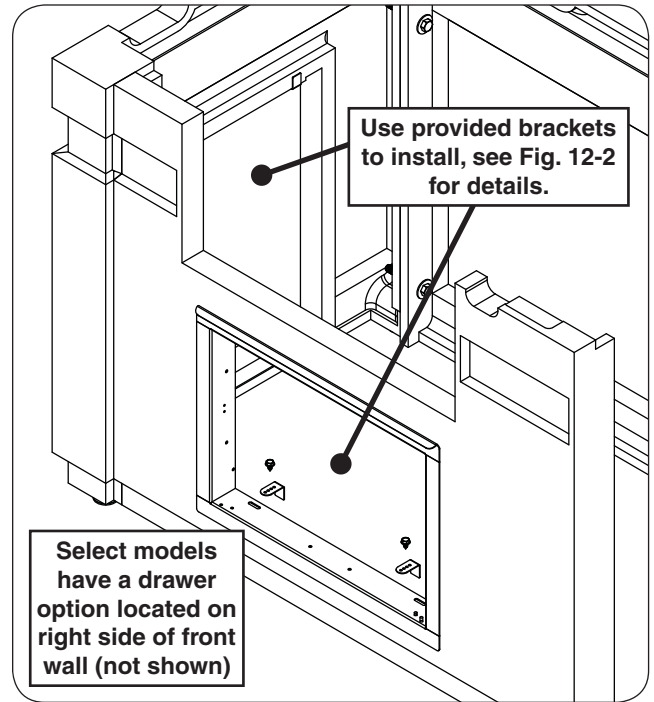
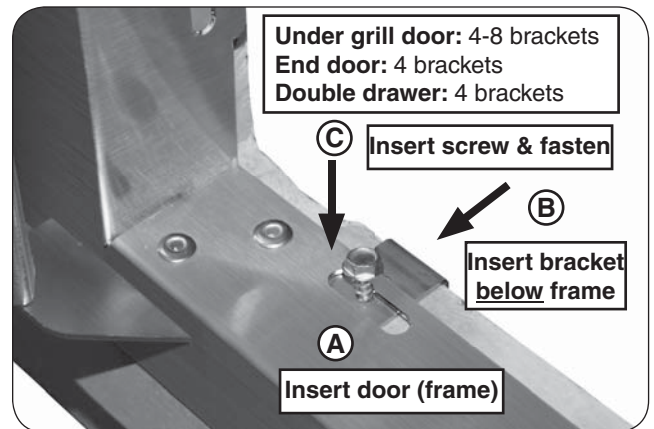

Fig. 12-1 Door / drawer install locations
Fig. 12-2 Door / drawer install detail
The drawers/doors for your island are purchased separately. Review the instructions provided with your accessories. See Fig. 12-1 for install locations.
1. Insert your drawer/ door completely into the appropriate opening. Ensure it is flush against the exterior wall (see Fig. 12-1 and Fig. 12-2, A).
2. The door will have 2-4 oblong cutouts (or round holes) on both the top and bottom of its frame. Insert a bracket where a cutout exists, below the frame. See Fig. 12-2, B.
3. While squeezing the rear of the bracket and the front of the door frame firmly against the concrete wall, insert a hex screw and tighten with the power drill and 5/16" hex driver (see Fig. 12-2, C). **DO NOT OVERTIGHTEN**